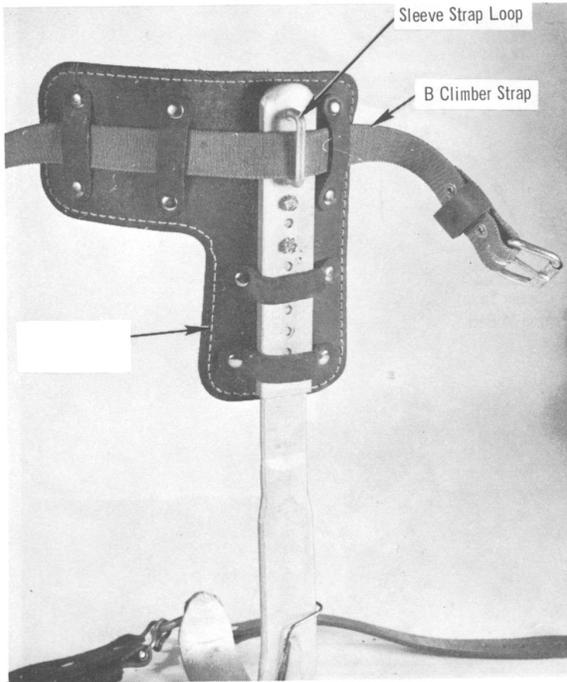

Fig. 6 – B Climber Pad (Right) Installed
2.06 The 22- or 26-inch B Climber Strap, Fig. 6, is used to hold the pad on the leg iron and to fasten both to a craftsman's leg when the climber is worn.
Next, place a B Climber Strap and pad on sleeve as shown in Fig. 6. Place the strap so the tongue will point toward back of leg when buckled. Place sleeve on climber, step on stirrup and adjust sleeve to position that is most comfortable. Place one of the set screws to hold the sleeve in